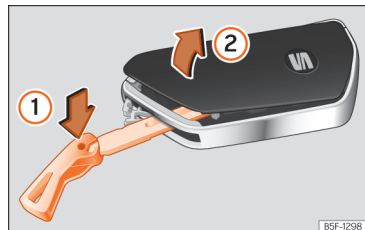

Fig. 69 Vehicle key: open the battery compartment cover.
- Insert the key blade into the slot >>> Fig. 69, press it in the direction of arrow ① and detach the cover by levering it ②.